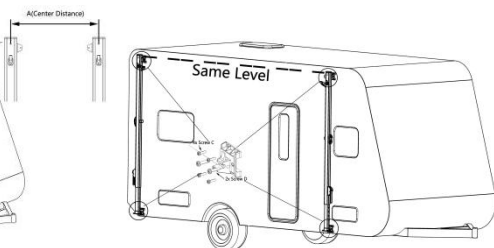

Figure C4
3.2 Fix the upper and lower installation brackets with Screws C and Screws D, ensuring that the left and right support rods are vertically aligned and at the same horizontal height.(Figure C4)